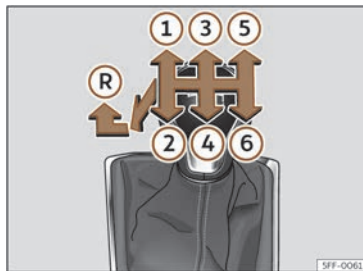

Fig. 114 Diagram of a 6-speed manual gearbox.
Gear positions are indicated on the gear lever >>> **Fig. 114**.
- With the gear lever in neutral, push it down, move it all the way to the left and then forwards to select reverse gear >>> **Fig. 114** .